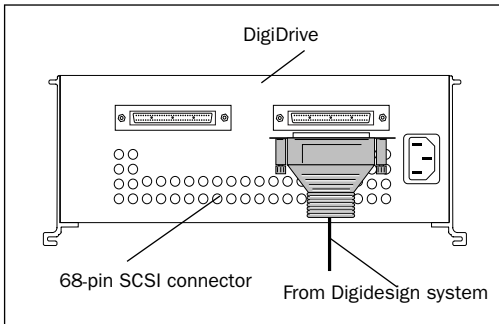

Figure 8. SCSI Cable to First DigiDrive Connection
- 1 Attach the 68-pin SCSI connector on the system cable to either SCSI connector on the DigiDrive (see Figure 8). Secure the cable by using the thumbscrews that are part of the cable connector.